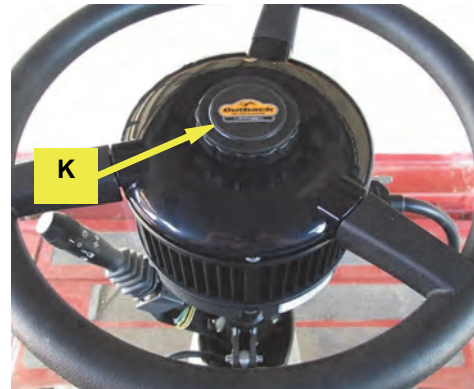

Figure 7b: Installed telescoping actuator
- Snap the steering wheel center cap **K** into place and thread the telescoping actuator assembly into place in the center of the steering wheel assembly. Telescoping movement is now enabled (Figure 7b).